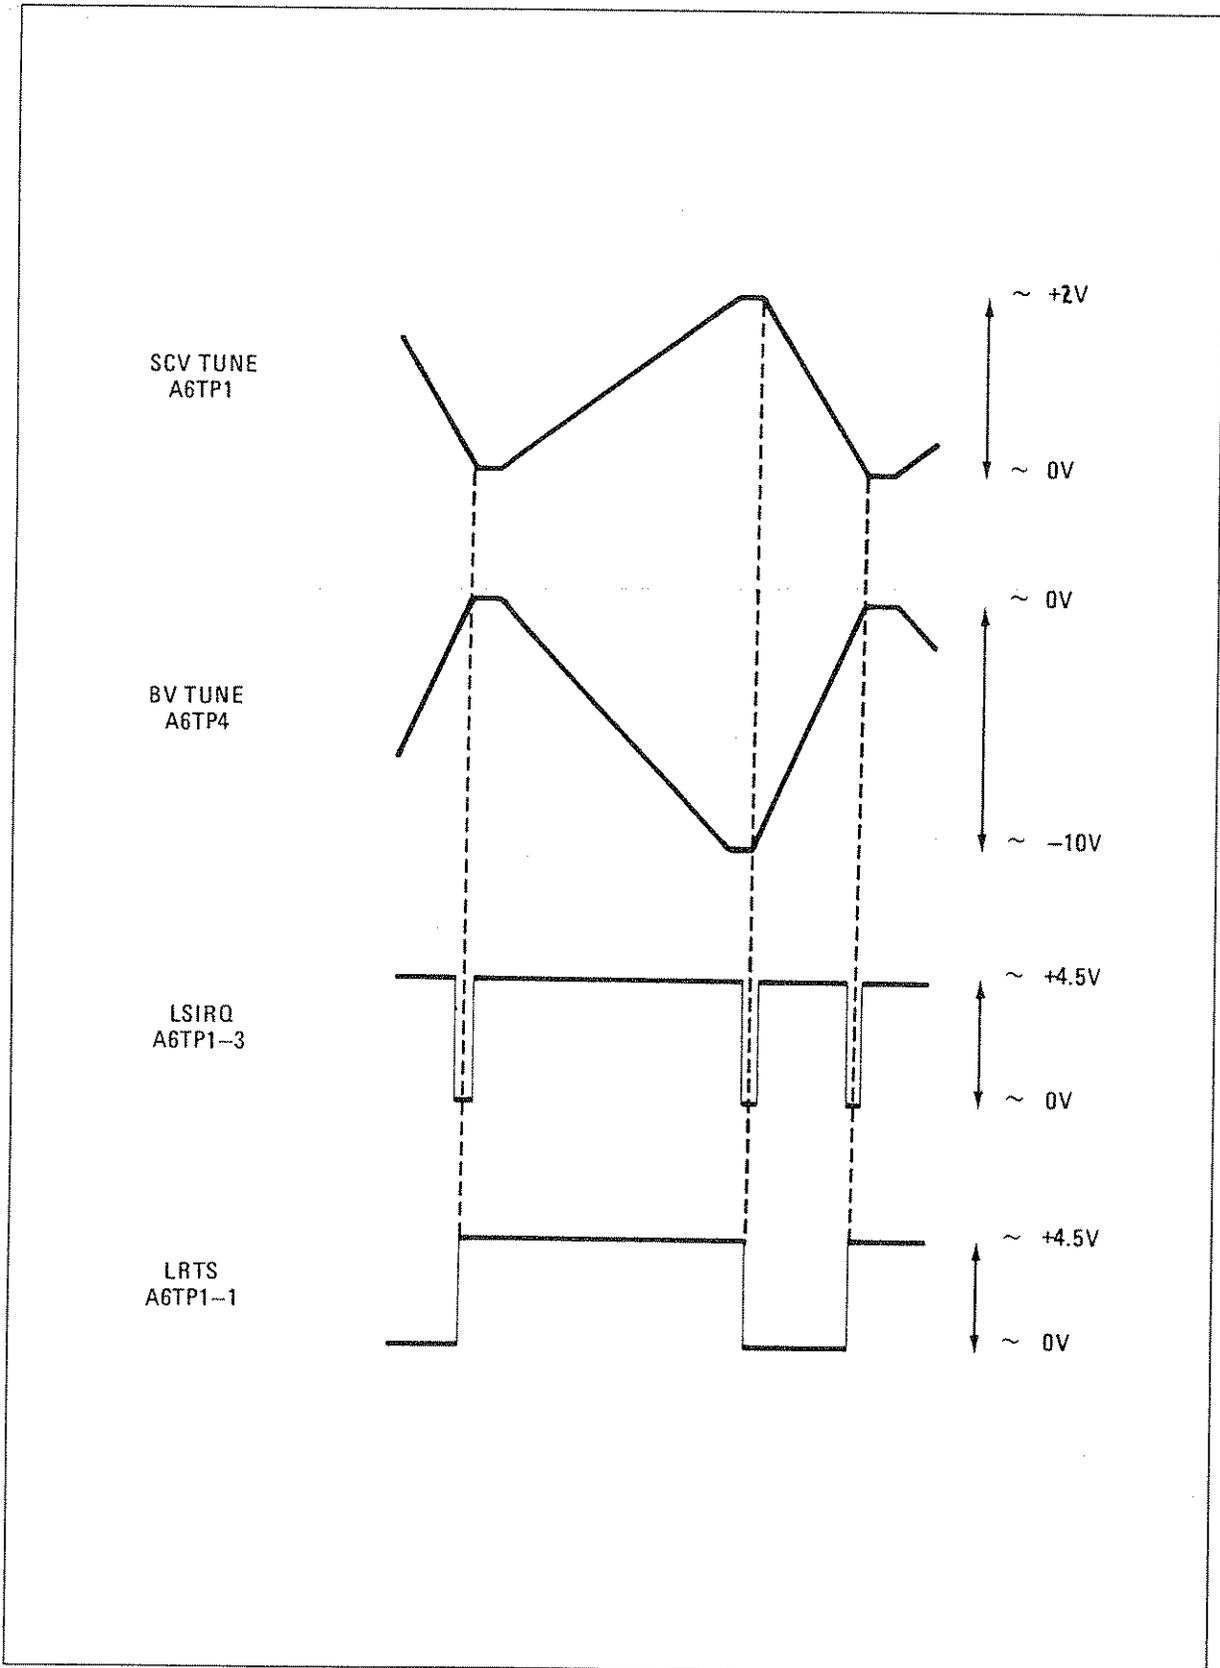

Figure 8-43. A6 Sweep Control and Interrupt Waveforms
- a. If YO DRIVE V is incorrect, check BVTUNE (TP4) for the waveform shown in Figure 8-43. If it is missing or of the wrong amplitude, trace the problem back through the inputs of A6U10 (both should be close to 0Vdc) to the sweep ramp output of the 8350.
2. If BVTUNE is correct, check SC VTUNE (TP1) against the waveform shown in Figure 8-43. If it appears to be bad, run the scale DAC test by setting a CW frequency of 26.5 GHz and pressing **[SHIFT] [5] [2]**. Check that A6U9 pin 17 is at -10 Vdc. Then check TP1 for the waveform shown in Figure 8-48. If this fails, check address decoding and the DAC latches using the digital control troubleshooting below.
- a. L RTS should appear as illustrated in Figure 8-43, with a low pulse occurring at the end of each forward sweep. If L RTS is not correct, trace the problem back through the plug-in interconnects to the HP 8350.
- b. LSIRQ should pulse low briefly for end of sweep interrupts as illustrated in Figure 8-43. If these pulses are missing, but L RTS is present, suspect A6U21C, A6U17B, or control lines from A6U22.
A6U10 receives the tuning voltage from the 8350 mainframe and buffers it for use on the rest of the board. The circuit is arranged as a differential amplifier, with the tuning signal appearing at the inverting input and the cable shield at the non-inverting terminal. This provides good common mode rejection to eliminate noise picked up on the cable. The waveform at TP4 is an inverted ramp, ranging from 0 to -10V for sweeping the full range of the plug-in. See Figure 8-43.
A6U9 is a 12-bit multiplying DAC, which scales the tuning voltage according to the binary pattern loaded at its inputs. Inverting amplifier A6U15 and emitter-follower A6Q1 are included in the feedback path to provide the current gain needed to drive later stages. A6CR1 prevents transients from damaging the DAC during turn-on. A6C1, along with the DAC's internal feedback resistor, determine the bandwidth of the circuit. The waveform at TP1 is a scaled ramp, with a maximum range of 0 to $+10\text{VDC}$. See Figure 8-43.